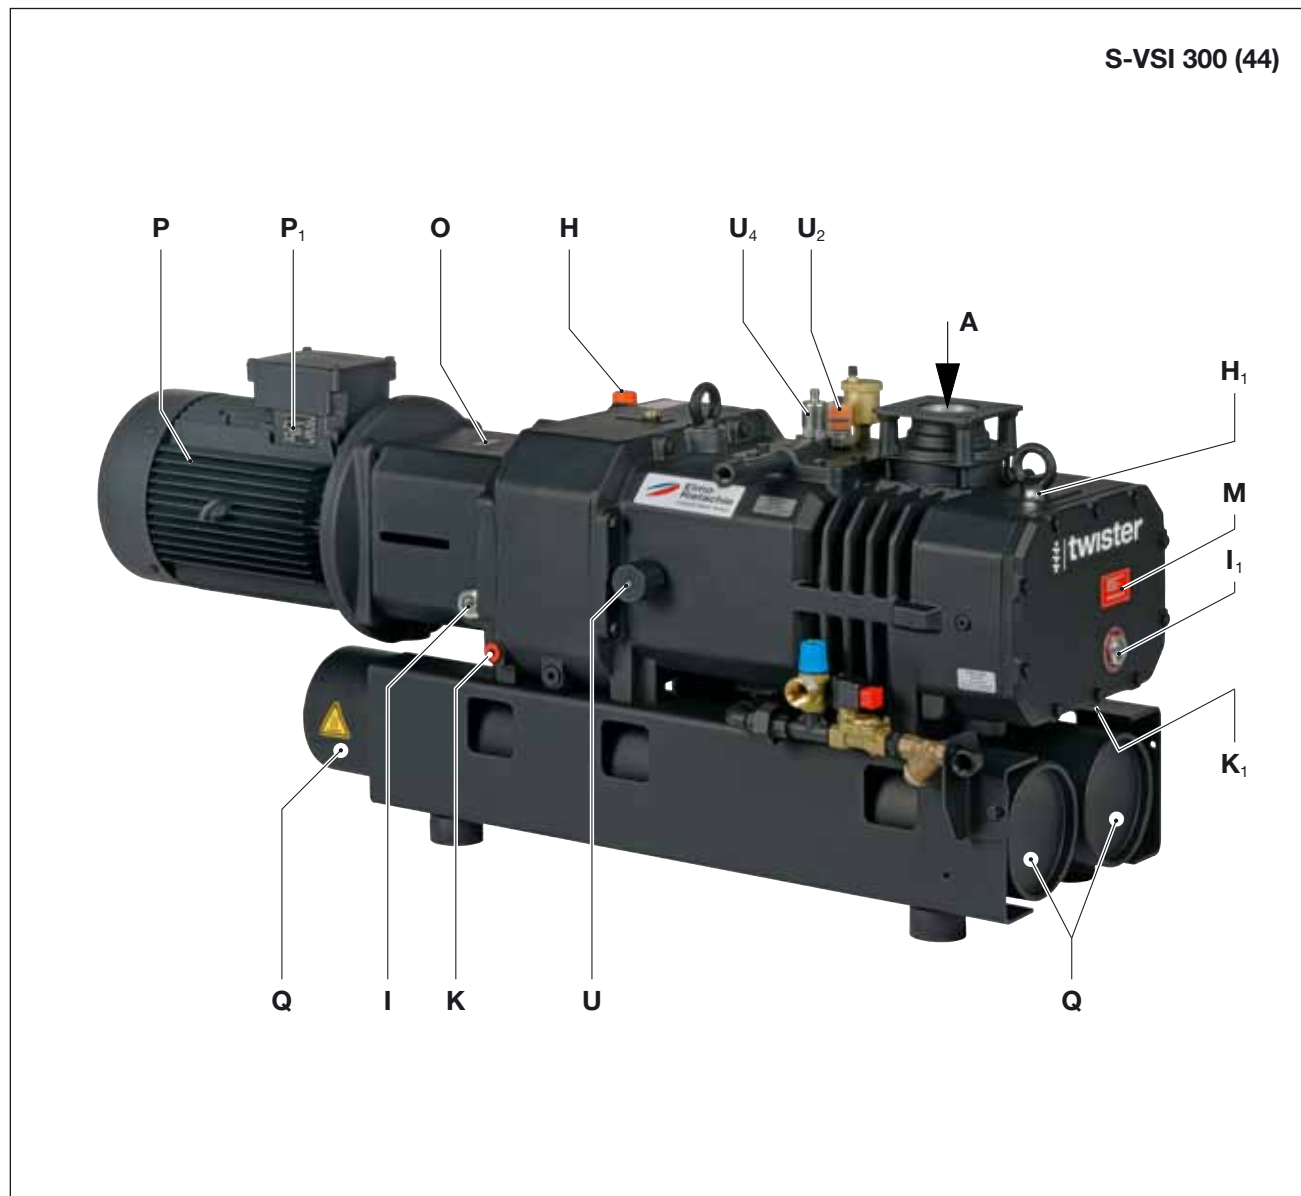
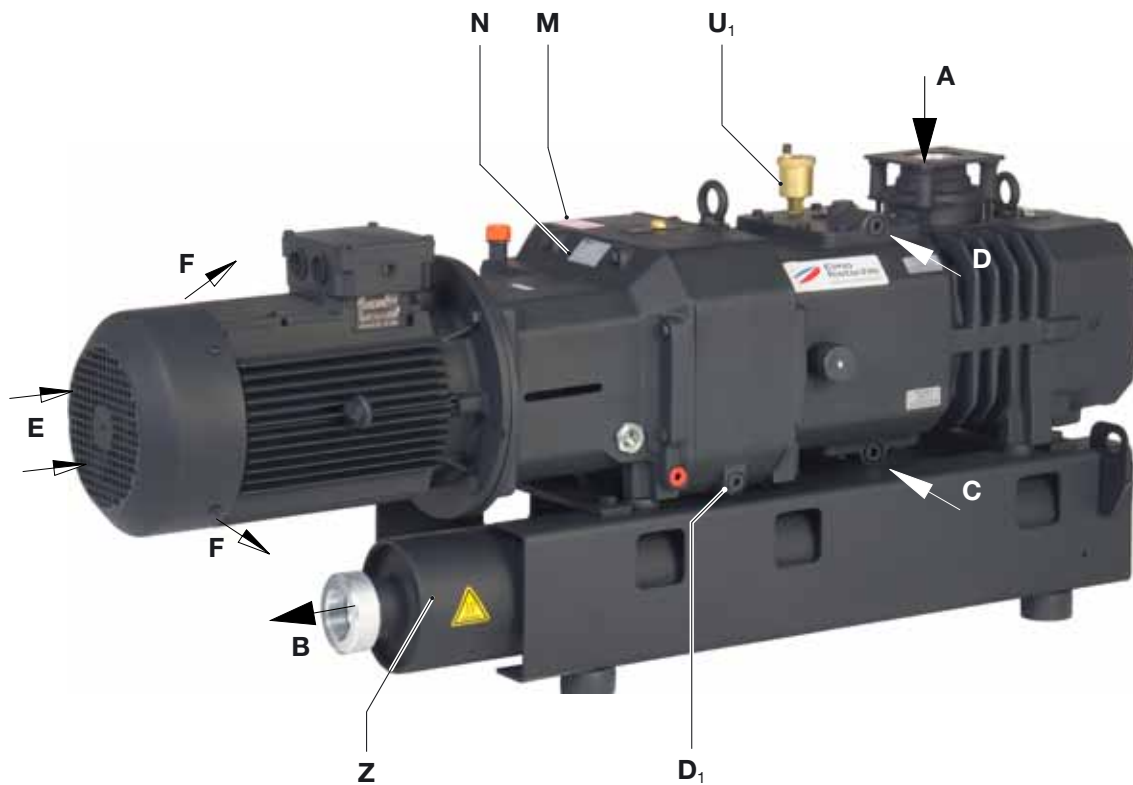

Fig. 2 Vacuum pump S-VSI 300 (44)
Fig. 3 Vacuum pump S-VSI 300 (44)
The oil fill ports (Fig. 2/H, H₁), oil sight glass (Fig. 2/I, I₁) and oil drains (Fig. 2/K, K₁), cooling water inlet (Fig. 3/C) and cooling water outlet (Fig. 3/D) must be easily accessible. The cooling air intake (Fig. 3/E) and cooling air outlets (Fig. 3/F) must be at least 1 ft. away from adjacent walls. Hot cooling air coming out must not be allowed to recirculate.
- a) Vacuum connection at (Fig. 2/A, 3/A).
- b) The discharged air can be blown out through the exhaust silencer at (Fig. 3/B) or conducted away using a hose or a pipe.
The air vent (Fig. 3/B) must not be closed or restricted.
- a) Connect the cooling water pipe to the cooling water inlet (Fig. 3/C) and the cooling water discharge pipe to the cooling water outlet (Fig. 3/D).